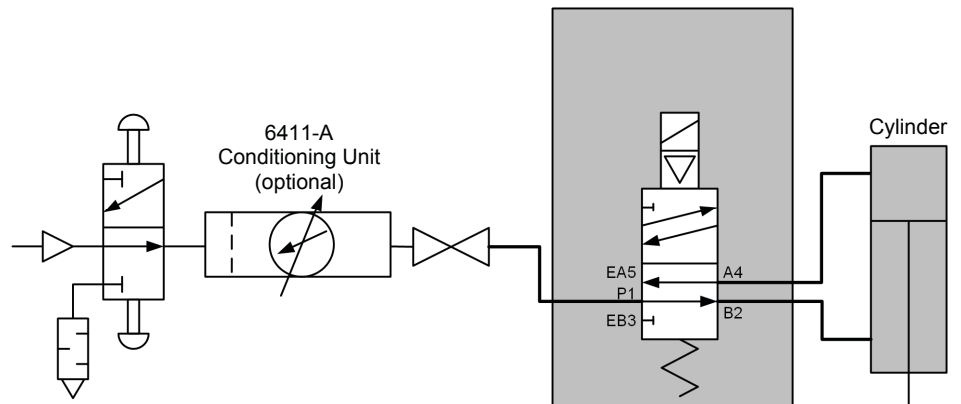

Figure 18. Pneumatic connections of the Bottling Process application.
11. Connect the tubing between the pneumatic cylinder, the directional valve and the pressurized air source according to Figure 18.